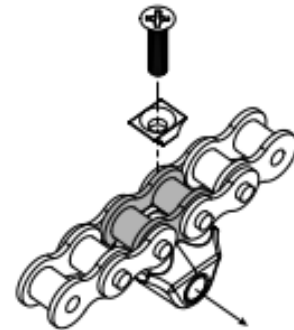

Figure 20. Target Magnet Toward Operator Attached to a Fixed Link
5. Attach the limit magnet to the marked fixed link. (Figure 20) Point the magnet towards the operator.